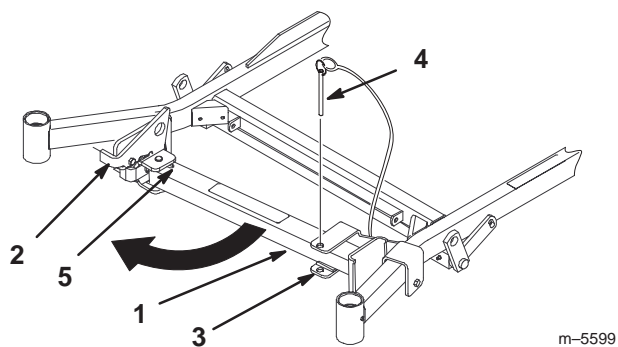

Figure 27
2. Remove bracket pin (Fig. 27).
3. Raise the latch. Swing stand foot out front and slide stand toward machine, into the bottom of slot (Fig. 27 and 28).
5. Return stand to its rest position (Fig. 27).